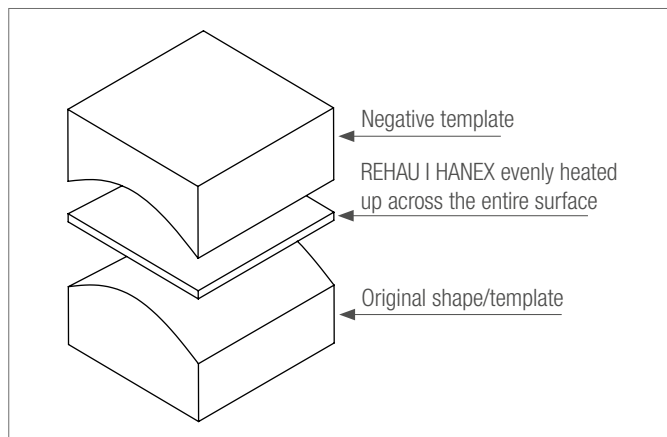
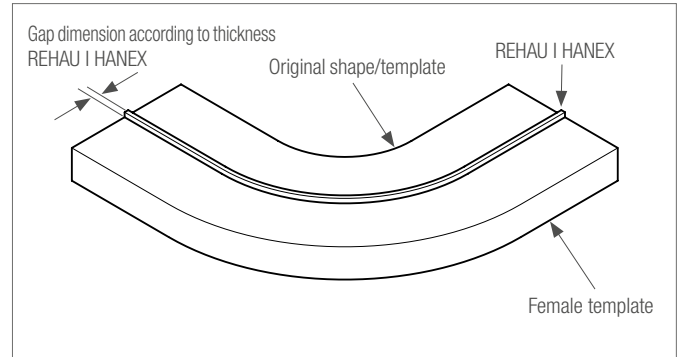

Abb. 7-1 Heating appliance and sheet
Abb. 7-2 Thermoforming
- The REHAU I HANEX strips or sheets must be warmed up evenly through the entire thickness of the material and the entire shape (Abb. 7-1 and Abb. 7-2)
A positive and a negative template is generally required for shaping (original component and counterpart). A gap dimension must be observed between the templates, which corresponds to the sheet thickness of the REHAU I HANEX material to be shaped (Abb. 7-1 and Abb. 7-2).